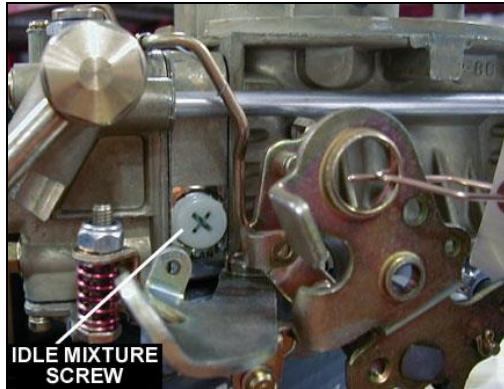

Figure 7
2. Adjust each idle mixture screw (Figures 7 & 8) 1/8 turn at a time, alternating between each screw. Turn them equally, until you achieve the highest possible vacuum reading without adjusting the curb idle speed screw.